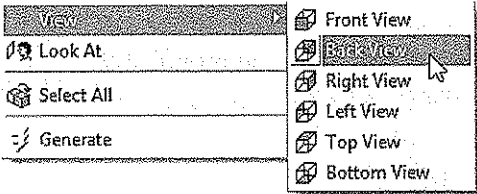

Figure 7-44 Choosing the Back View option from the shortcut menu
- 1. Right-click in the Graphics screen and then choose **View > Back View** from the shortcut menu displayed to orient the model, refer to Figure 7-44.